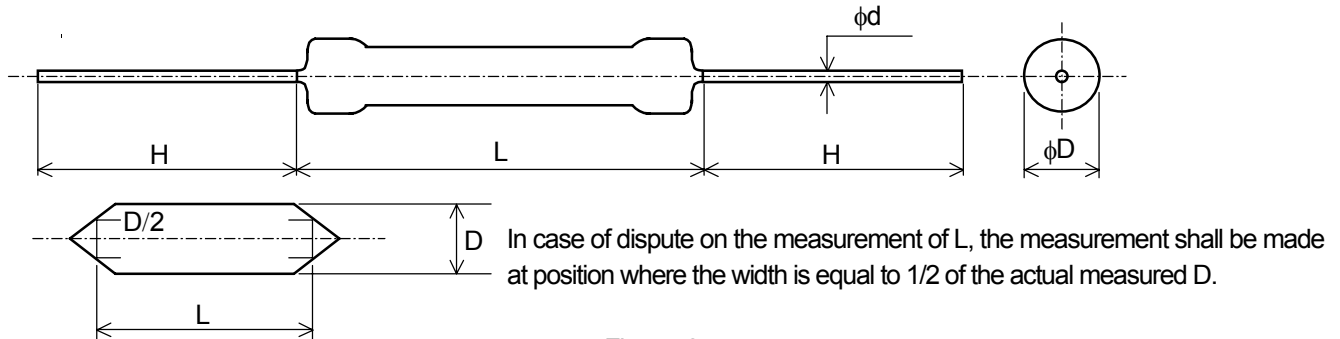
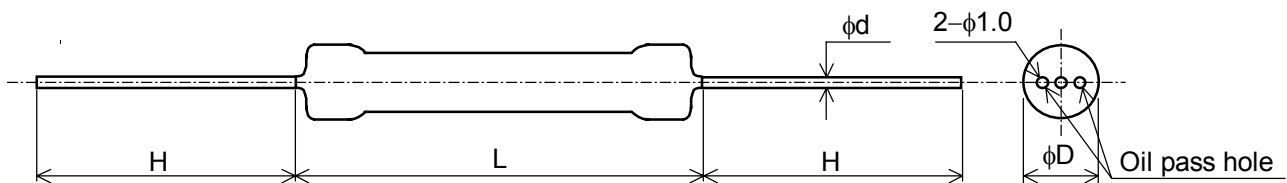

Figure-2
Figure-3
5.1 The resistor shall be accordance with the design and physical dimensions in Figure-2, Figure-3, Table-3 and Table-4.